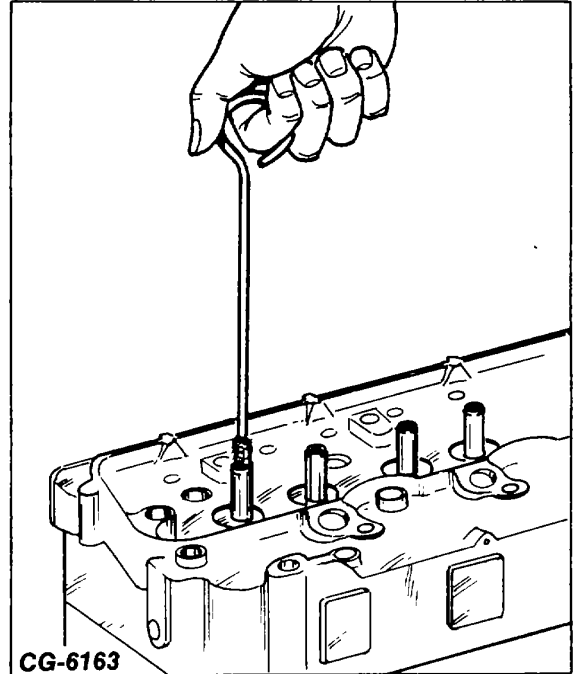

Figure 15. - Cleaning Valve Guide Bores
2. Insert brush into I.D. of valve guide and with a turning motion, run the brush through to insure removal of gum, carbon, deposits and rust preventive from the guide and spiral groove (See Fig. 15).